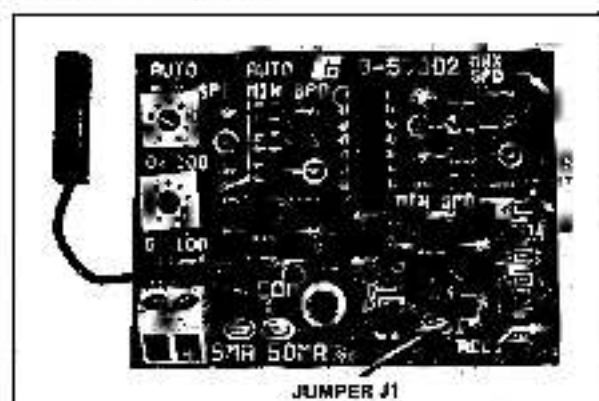

Figure 1 - Instrument Interface Kit
The MinPak Plus/FlexPak Plus can automatically follow a milliampere signal from a process control instrument if the optional Instrument Interface/Preset Speed Kit is installed. (Refer to Figure 1). Alternately, the Kit also permits the drive to run continuously at a preselected speed.
**NOTE:** If the Operator Control Station contains an AUTO/MANUAL selector switch, it is necessary to remove jumper J1 from the Instrument Interface Module and J4 on the Regulator Module. (Refer to Figures 1 & 3. Do this before placing the Module on the Regulator Module.)